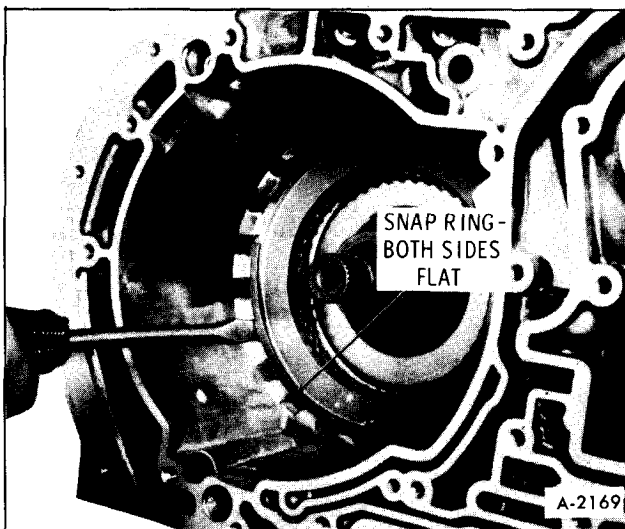

Figure 52-Intermediate Clutch Snap Ring
2. Remove intermediate clutch backing plate to case snap ring, Figure 52.